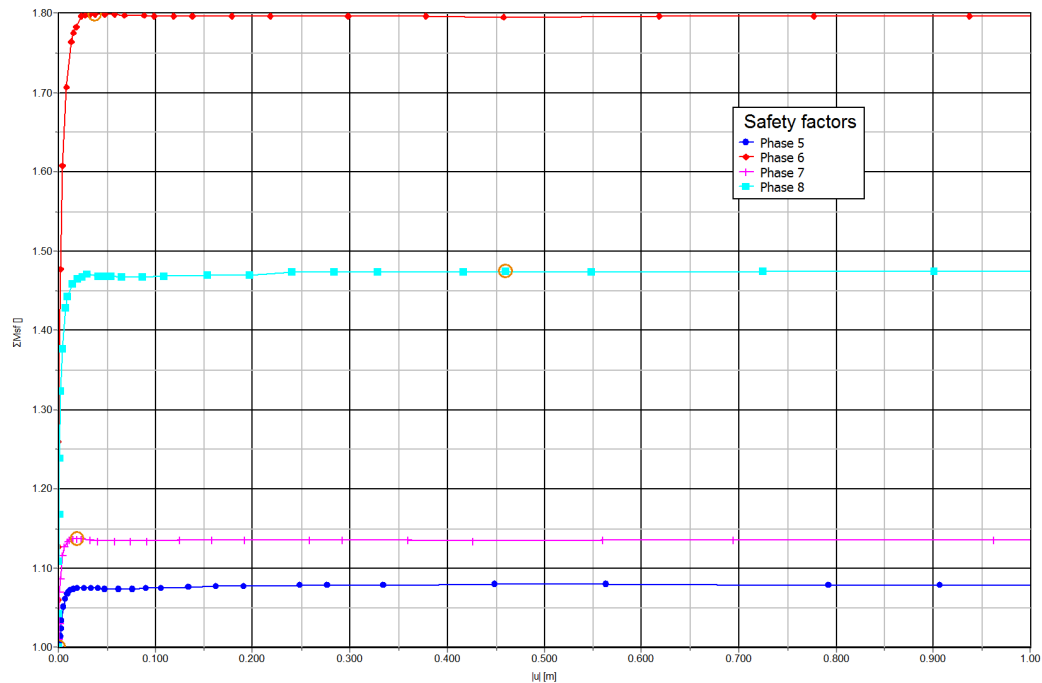

Figure 126: Evaluation of safety factor
17. The legend can be relocated in the chart by dragging it. The plot is shown in Figure 126 (on page 144):